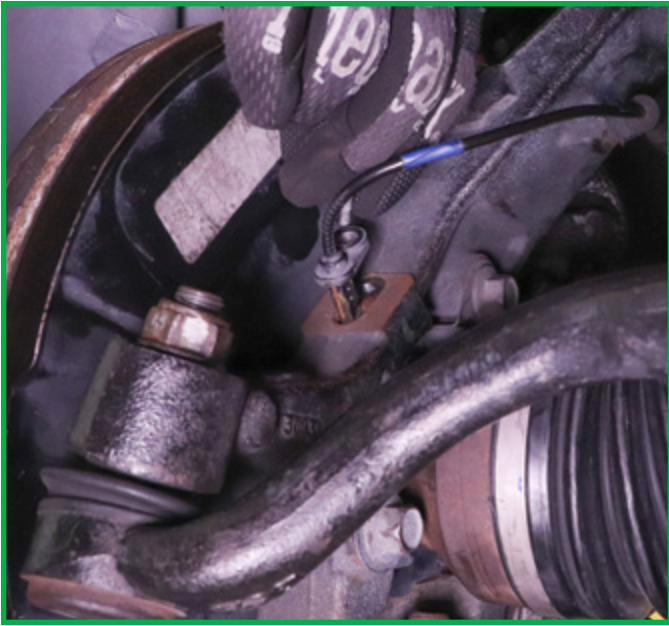

FIGURE 35
8. Reinstall speed sensor and tighten to manufacturer's specifications. Reroute the speed sensor wire along the brake line path, clipping them securely. (Figures 35, 36, 37)